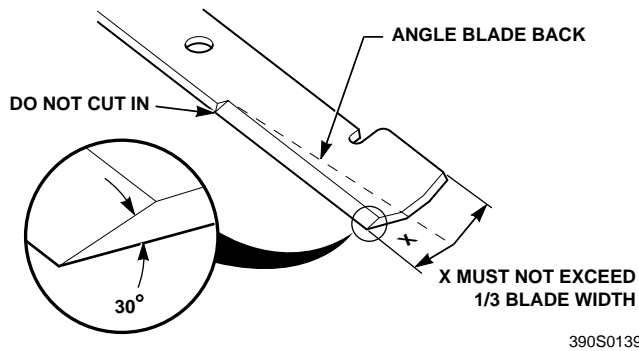

Figure 7-9 Blade Sharpening
1. Sharpen the cutting edge at the same bevel as the original. See Figure 7-9. Sharpen only the top of the cutting edge to maintain sharpness.